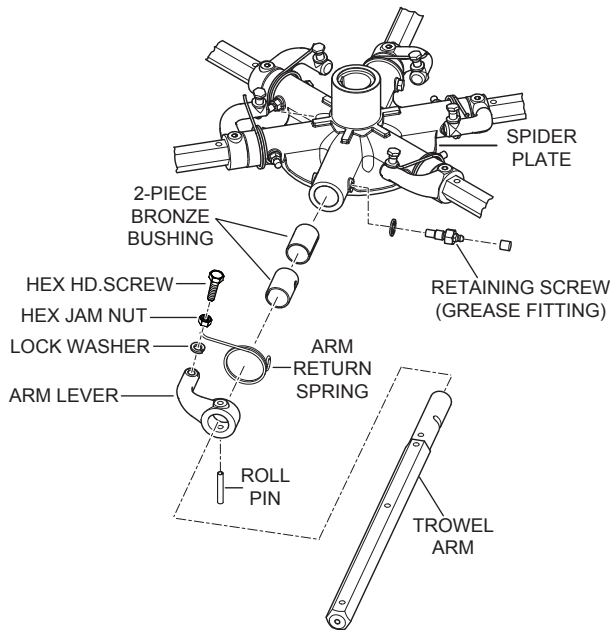

Figure 52. Remove Roll Pin And Zerk Fitting
- Each trowel arm is held in place at the spider plate (Figure 52) by a hex head bolt (Zerk grease fitting) and a roll pin. Remove both the hex head bolt and the roll pin from the spider plate.